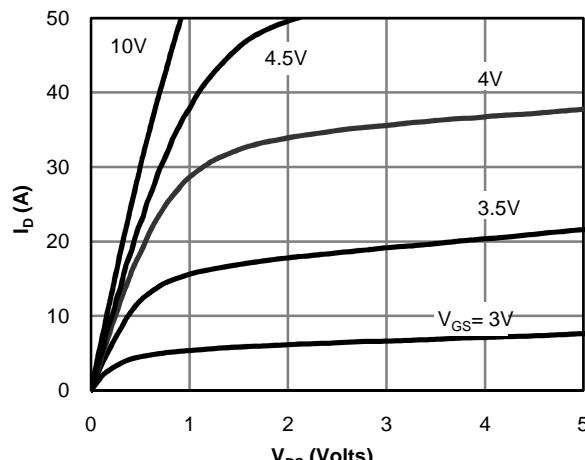

Figure 1: On-Region Characteristics
E. The static characteristics in Figures 1 to 6 are obtained using <300ms pulses, duty cycle 0.5% max.